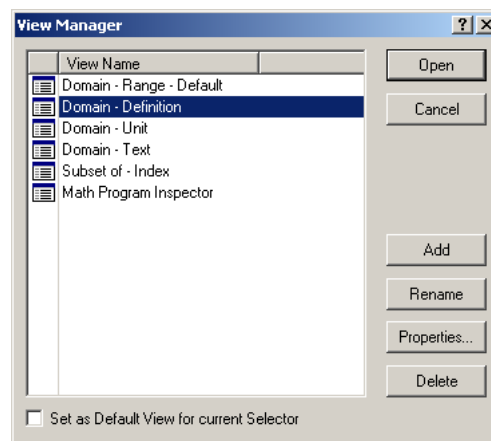

Figure 3.16: View Manager window
- ▶ select the 'Domain - Definition' entry from the **View Manager** window (see Figure 3.16), and